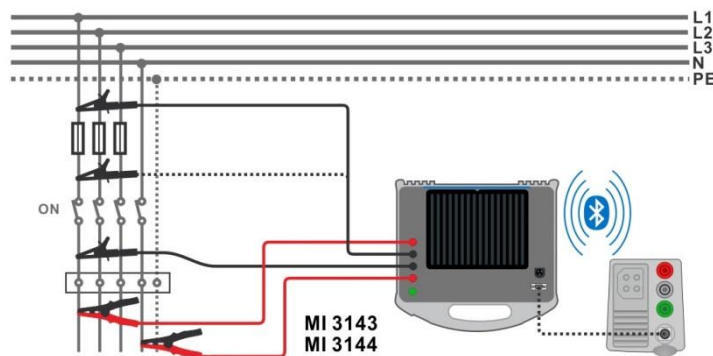

Figure 7.65: High Current resistance measurement
- ▶ Connect test leads to the object under test. See **Figure 7.65**.